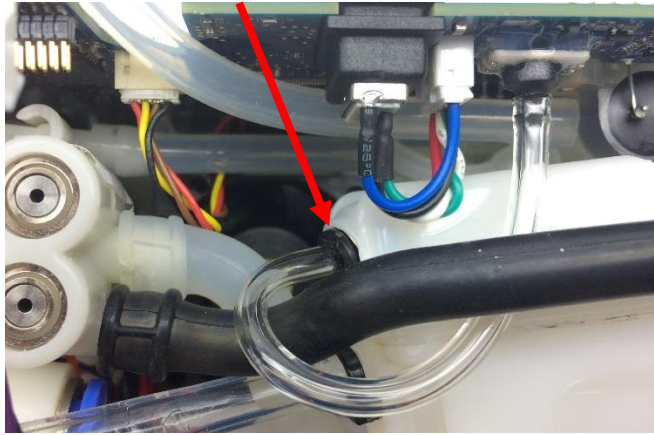

Figure 10: Accumulator Sensor Tubing
6. Remove the Accumulator Sensor Tubing by pushing down on the retaining ring while gently pulling on the tubing. Be careful not to apply any force to the pressure sensor. (Figure 10)
5. Install the sensor tube by routing it around the long molded column tube and inserting it into the quick-connect fitting on the Accumulator. After insertion, pull lightly on the polyurethane tubing to ensure that it is fully seated (Figure 10).